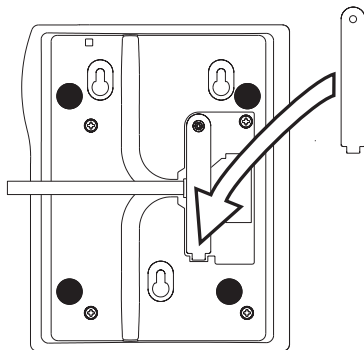

Figure 4 Installing the Cable Retaining Strap
2. Install the cable restraining strap as shown in Figure 4. Insert the tab opposite the screw hole into the slot in the terminal case, and then secure the strap over the cable with the provided screw.
2. Install the cable restraining strap as shown before, in Figure 4.